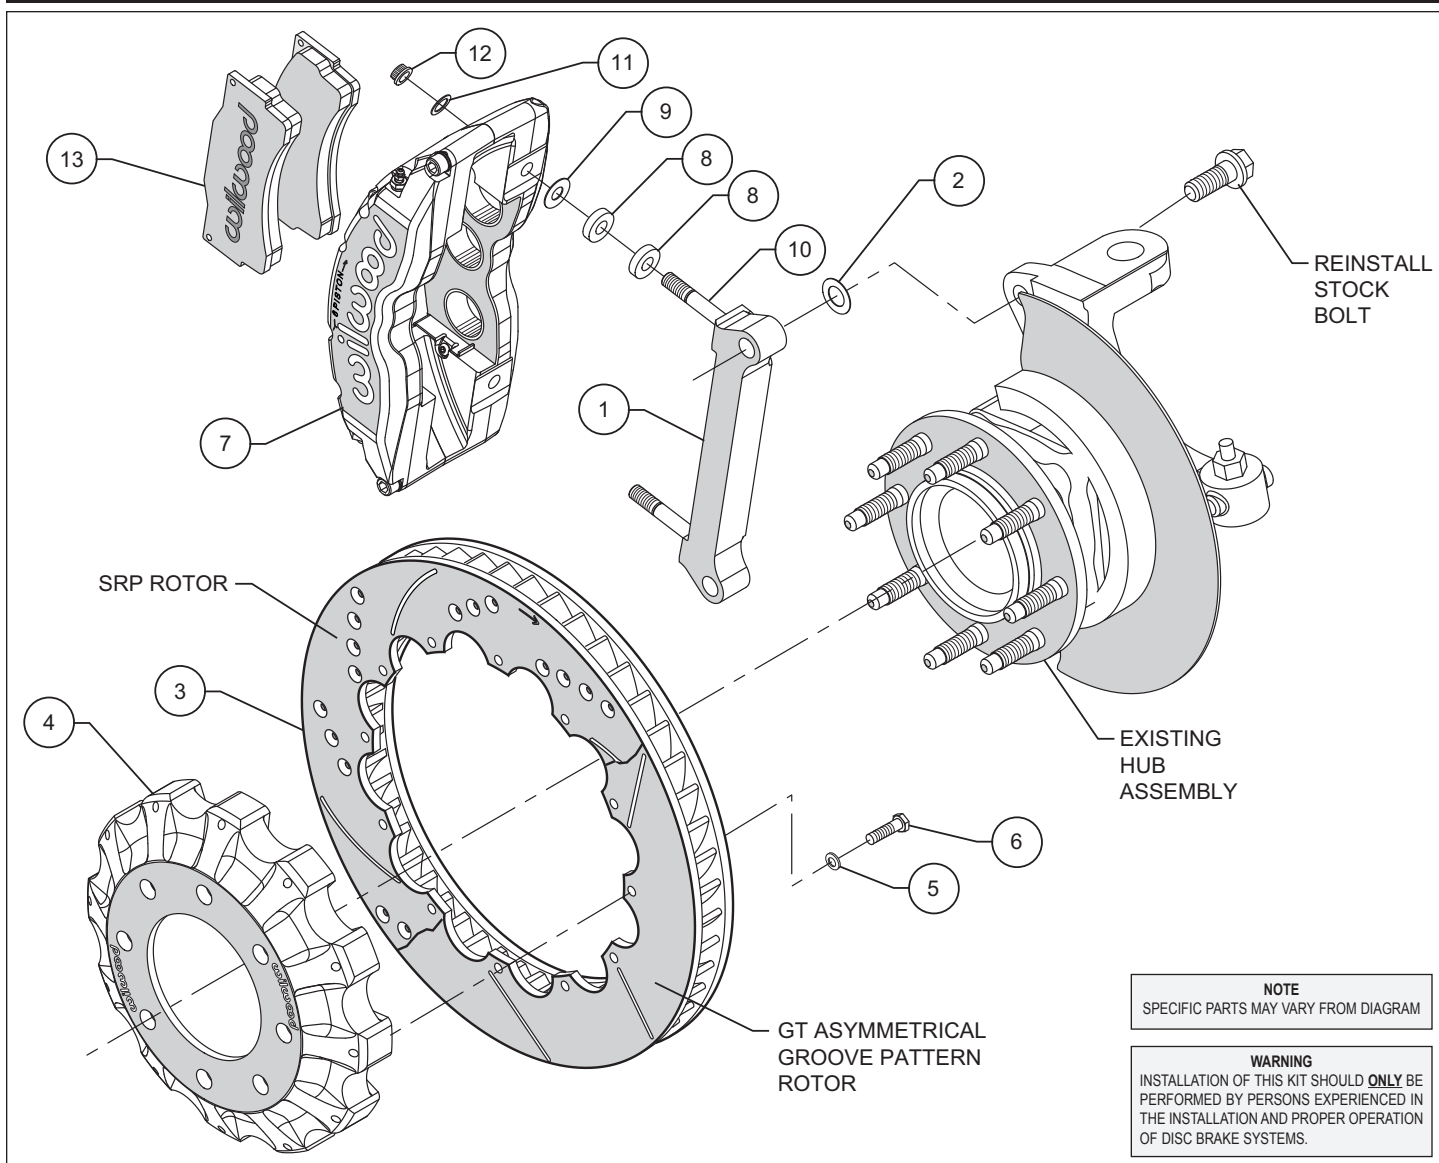
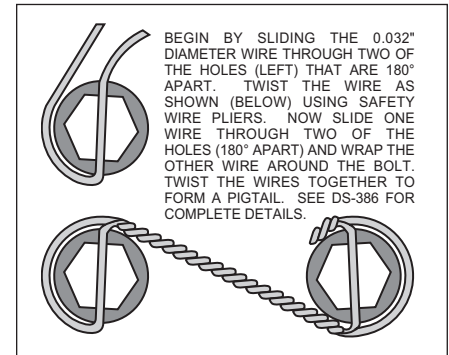

Figure 1. Typical Installation Configuration
Figure 3. Safety Wire Diagram
- The caliper mounting bracket assembly (1) should be installed first with clean, dry threads on the mounting bolts. Install the bracket to the outboard side of the spindle by sliding the stock bolt through from the backside into the bracket(1). Place shim washer (2) between the bracket (1) and the spindle (see Figure 1). The bracket must tighten squarely against the side of the spindle body. Inspect for interference from casting irregularities, machining ridges, burrs, etc. Use one thin shim (2) between the bracket (1) and spindle during initial trial fitting.
- With the larger I.D. side of the rotor (3) facing away from the hat (4), attach rotor (3) to hat (4) using washers (5) and bolts (6) as shown in Figure 1. Finger tighten. Using an alternating sequence, remove bolts (6) one at a time, apply red *Loctite*® 271 to the threads and torque to 120-144 **in-lb**. Safety wire bolts (6) using standard 0.032 inch diameter stainless steel safety wire as shown in Figure 3. Please refer to Wilwood's data sheet DS-386 (available at [www.wilwood.com/Pdf/DataSheets/ds386.pdf](http://www.wilwood.com/Pdf/DataSheets/ds386.pdf)) for complete safety wire installation instructions.